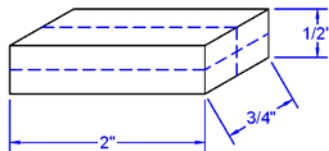
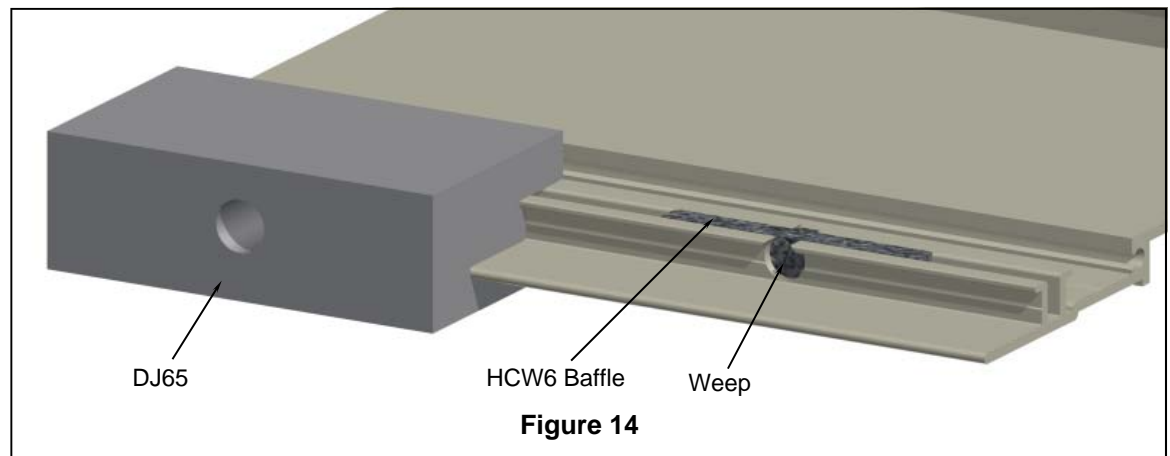

Figure 15
Figure 14
- Using drill jig DJ65 drill 5/16" diameter weep holes in the sub-sill 6" from the jambs and no more than 42" apart. See figure 14.
- Weep baffles are cut from part HCW6. One part HCW6 will produce 4 baffles when cut per figure 15. Locate them at the weep holes per figure 14.